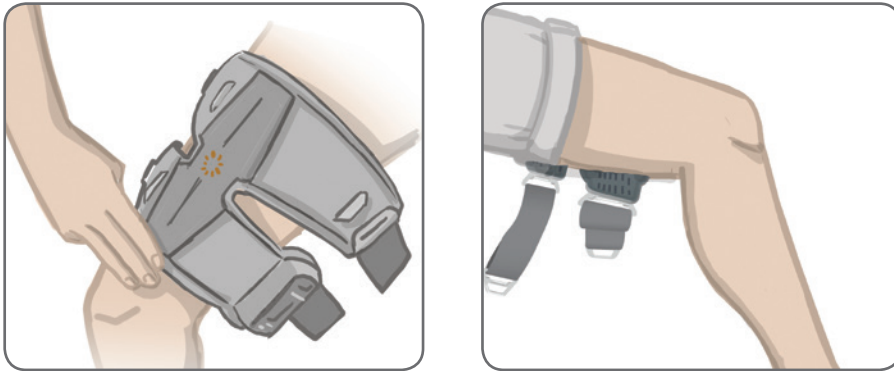

Figure 6-15: Correct Position of the Thigh FS Cuff Locator
3. Place the thigh FS Cuff locator (a tactile finger mark) on the midline of the thigh, approximately three finger widths from the knee. See Figure 6-15. Make sure to place thigh FS Cuff in the fitting position determined by your clinician.